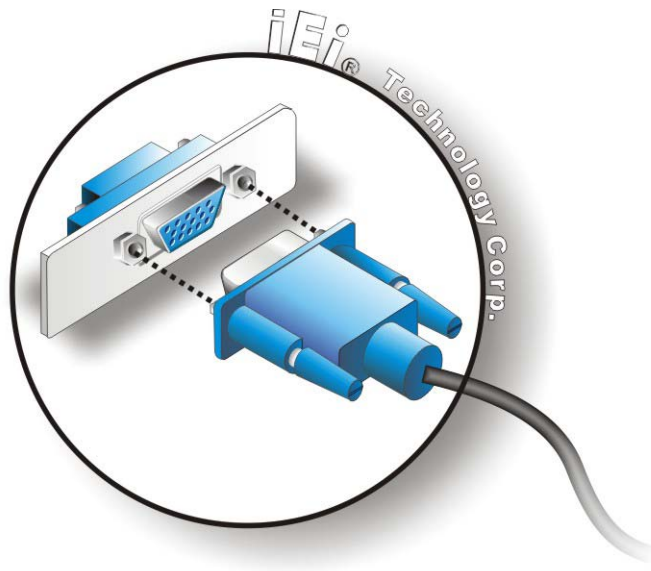

Figure 4-19: VGA Connector
- Step 3: Insert the VGA connector** Once the connectors are properly aligned with the insert the male connector from the VGA screen into the female connector on the IMB-C2160. See **Figure 4-19**.